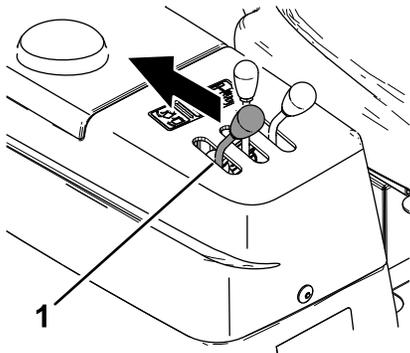

Figure 50
1. Have another person pull rearward and hold the hopper dump lever (Figure 50).